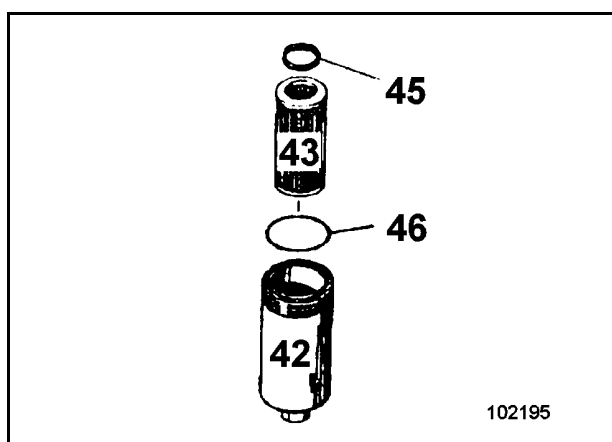

Fig. 3-119:
- Unscrew filter housing (42, Fig. 3-119:).
- Withdraw filter element (43) from housing (42).
- Insert filter element into housing (42) and attach to the filter head with a new, slightly oiled sealing ring (46).